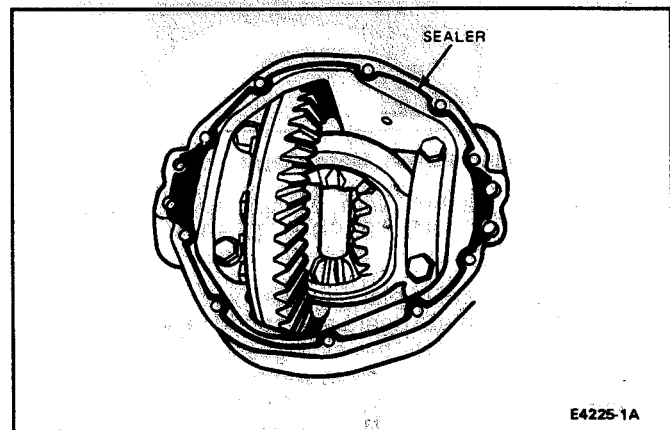

FIG. 43 Bead Surface
17. Apply a bead 3.175-6.35mm (1/8-1/4 inch) high and 3.175-6.35mm (1/4-1/2 inch) wide of RTV sealant, D6AZ-19562-A (clear) or -B (black) (ESB-M4G92-A and ESE-M4G195-A) or equivalent on the mating surfaces of the carrier mounting face support arm as shown in Fig. 43. **Allow one hour curing time after the axle carrier is assembled to the axle arm before installing lubricant and operating vehicle.**